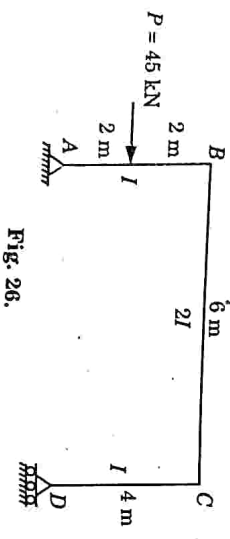

Fig. 26.
b. Find the horizontal movement of the roller end I of the portal frame shown in Fig. 26. Take  $E = 2 \times 10^8 \text{ kN/m}^2$  and  $I = 3 \times 10^4 \text{ m}^4$ . The moment of inertia of the column section is  $I$  while that of beam is  $2I$ .
Given : Frame shown in Fig. 26,  $E = 2 \times 10^8 \text{ kN/m}^2$ ,  $I = 3 \times 10^4 \text{ m}^4$